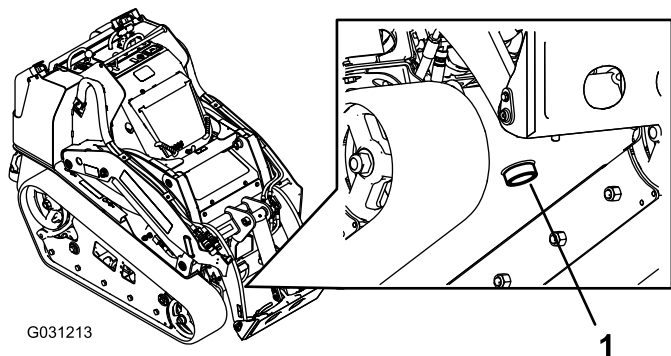

Figure 58
5. Place a large drain pan (capable of holding 57 or 15 US gallons) under the drain plug on the front of the traction unit (Figure 58).
6. Remove the drain plug and allow the oil to drain into the pan (Figure 58).